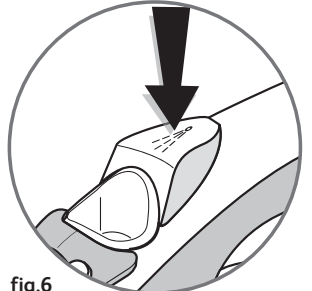

fig.6
- Whether steam or dry ironing, you are able to use the Spray button  (fig.6) to dampen laundry to remove stubborn creases.